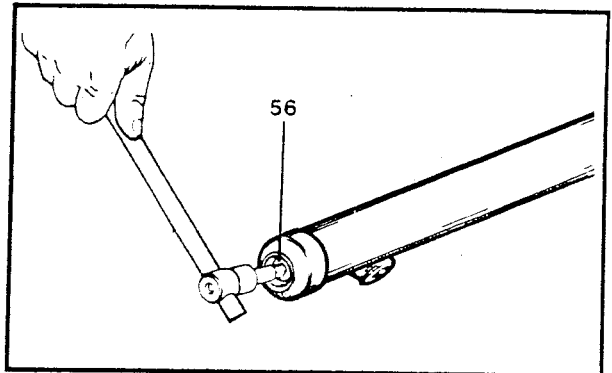

Figure 5-11. Remove Fork Main Retaining Screw
2. See Figure 5-11. Remove fork main retaining screw (56) and washer (55).